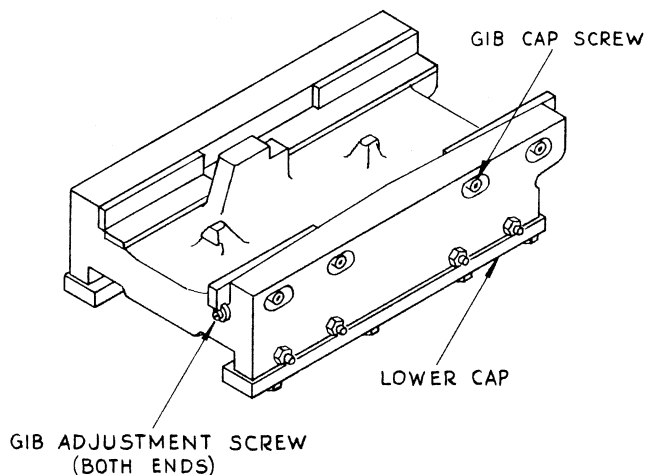

FIG. 12
3. After the machine has been in operation a few months it may be necessary to adjust the slide gibs. (Figure 12) The front gibs are not adjustable. There are two rear adjustable gibs. Loosen the cap screws for each gib on the back face of the saddle. The gib adjustment screws are set into each end of the saddle.